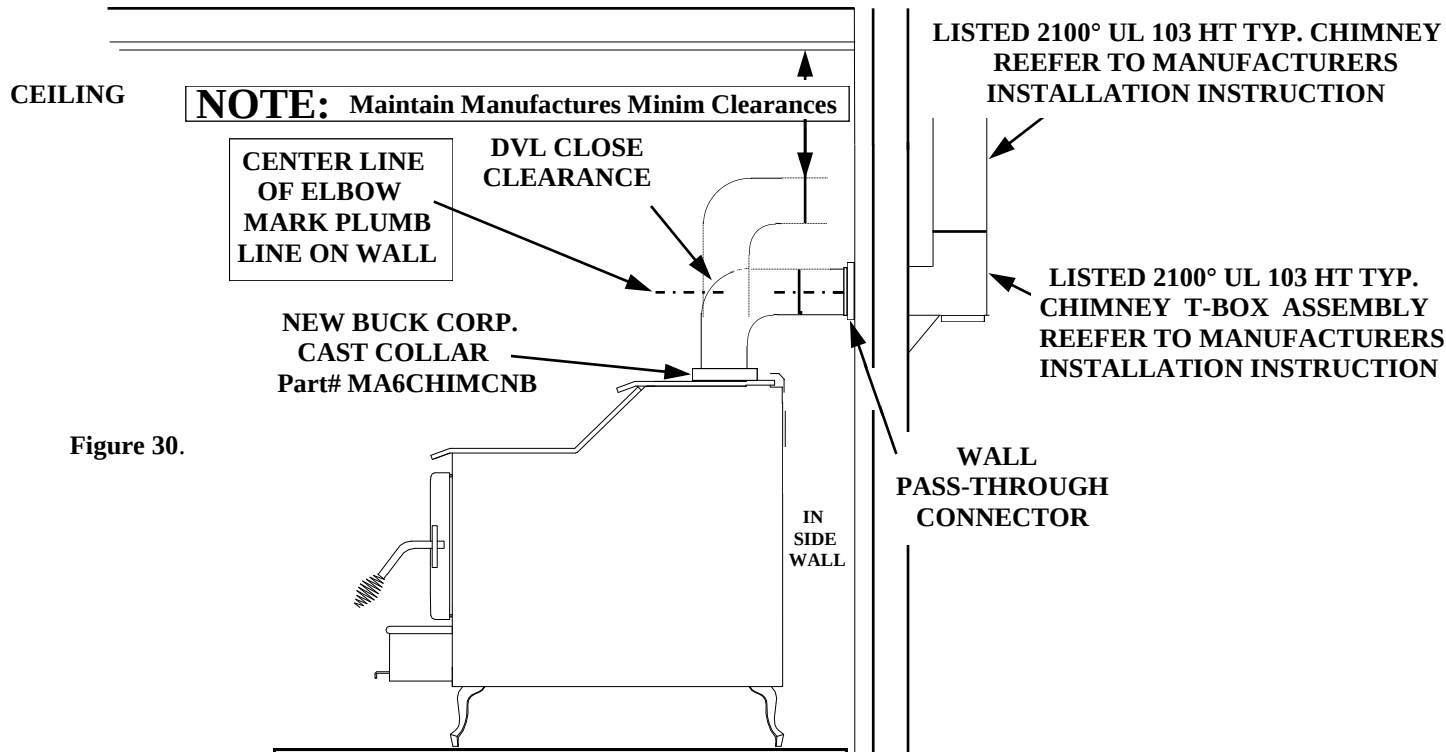

Figure 30.
(See Page 35, Figure 30.)
3. Measure up so there will be at least 1/4" rise per foot of horizontal connector pipe, maintaining clearances to the ceiling as noted in (Page 35, Figure 29, and Figure 30). This will give you the center of the hole for the chimney penetration.
5. Connect the DVL close clearance pipe to the tee-box, per manufacturer's instructions,. DVL close clearance pipe is to be connected with (3) sheet metal screws or rivets to New Buck Corporation Cast Collar, after New Buck Cast Collar Connector has been attached to stove. (See Page 35 ,Figure 30.).